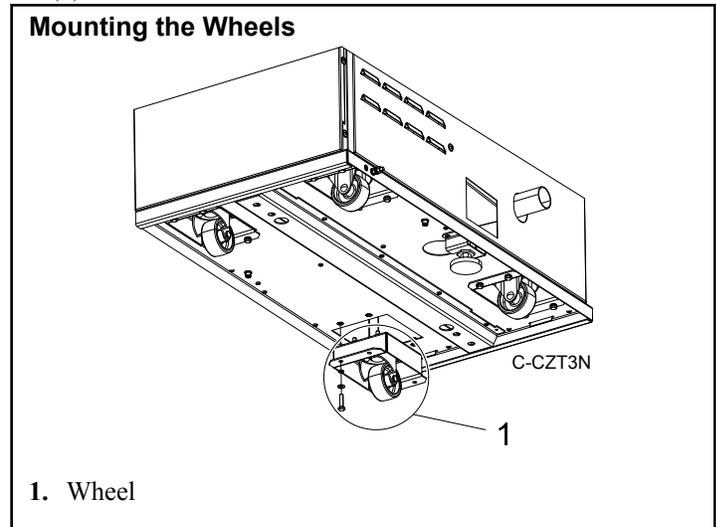

Figure 20
2. Mount the wheels to the heat pump base. Refer to *Figure 20* (1).